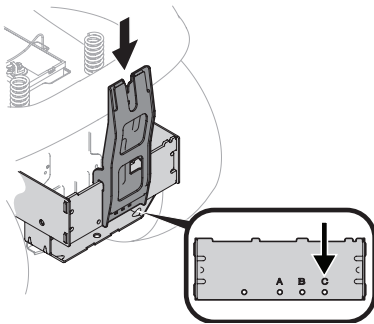

Figure 8
1. Install the vertical bagger support (683-04519C) onto the mounting assembly on the tractor by hooking it over the cross mounting bracket. See Figure 8.
2. Align the vertical bagger support with the hole labeled "C". See inset in Figure 8.